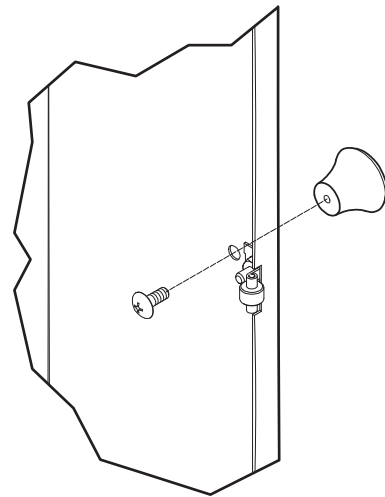

Fig. 11
2. Place door knob on outside of cabinet door. Then place machine screw through hole and into door knob and tighten (Fig. 11).